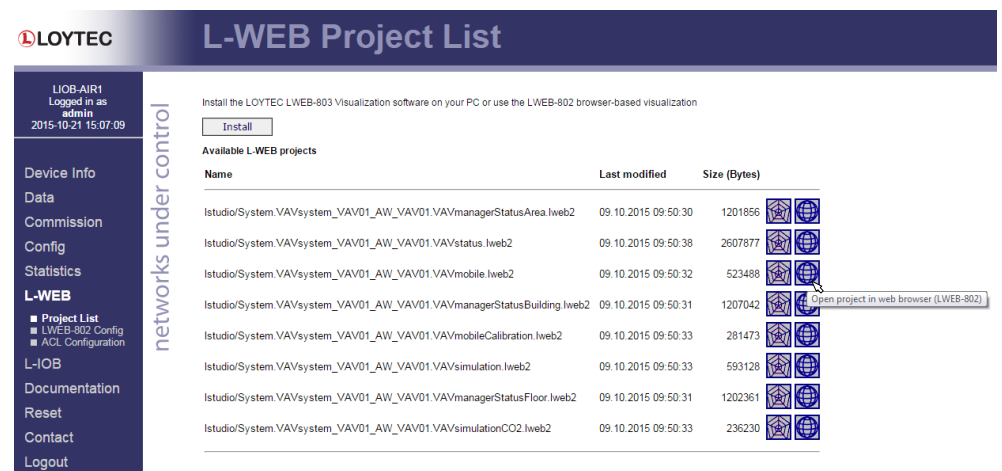

Figure 9: L-WEB Project List
3. Open the desired project in the web browser as shown in Figure 9.